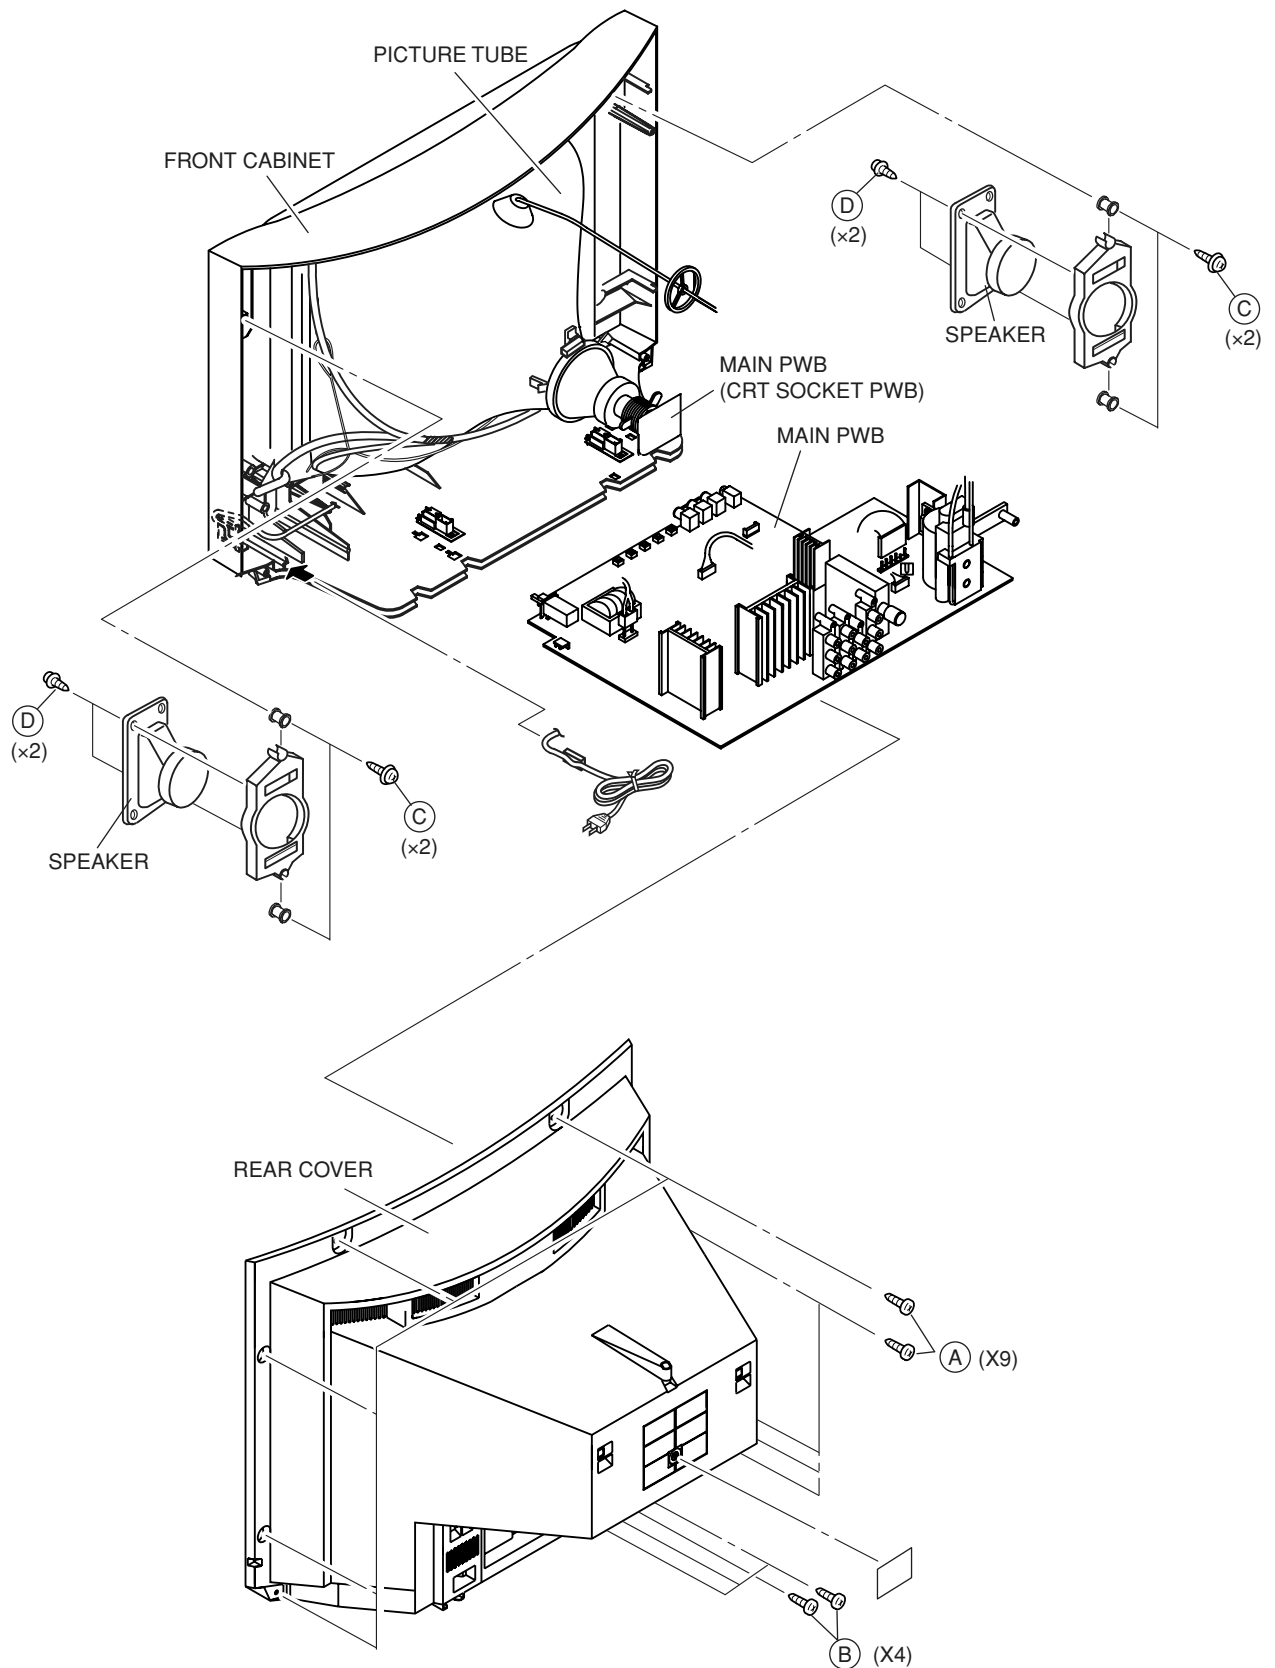

Fig.1
2. Remove the 9 screws marked (A) and 4 screws marked (B) as shown in Fig.1.
1. Remove the 2 screws marked (C) and 2 screws marked (D) as shown in Fig.1.